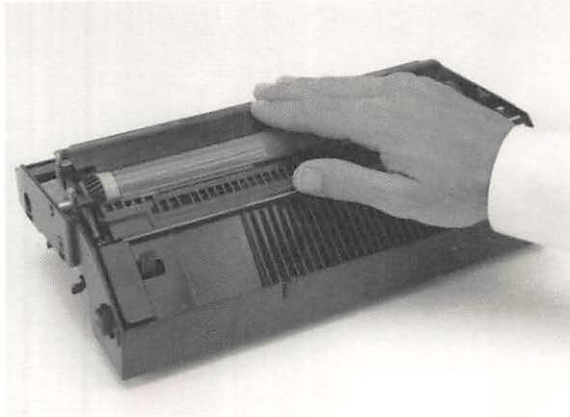

Figure 6-4
- **Don't open the drum protection shutter on the toner cartridge. (See Figure 6-4.)**